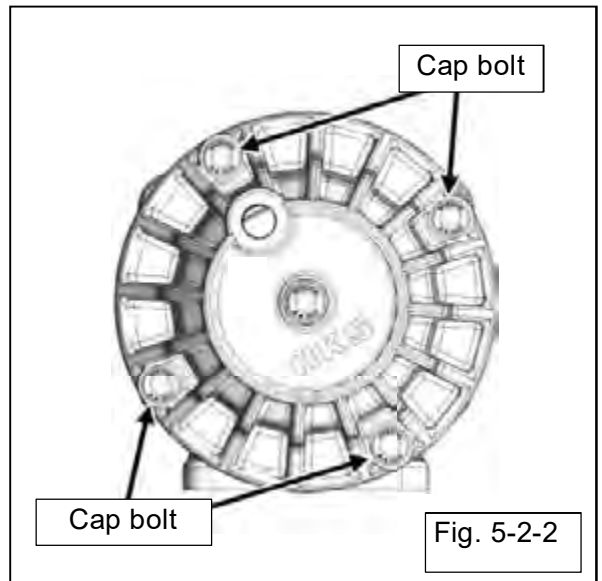

Fig. 5-2-2
(2) Remove the four cap bolts. (Fig.5-2-2)
(3) Slowly loosen the press holding the wastegate and remove the spring from the wastegate while being carefully not to let the spring fly out.
(4) Replace the spring, and reassemble the wastegate by a reverse procedure.